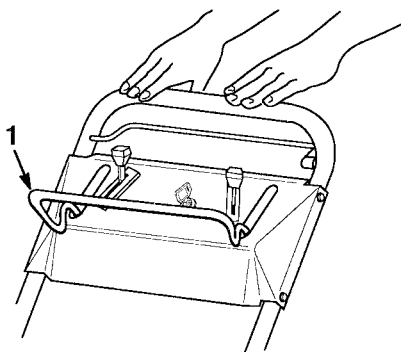

Figure 17
2. Release blade control bail (Fig. 17). Both the engine and blade will stop. See your dealer immediately if they do not.